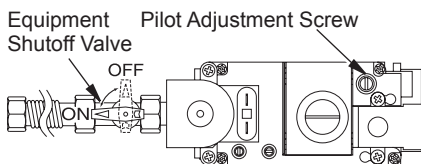

Figure 42 - Turning Equipment Shutoff Valve to the OFF Position
5. Turn equipment shutoff valve clockwise to the OFF position (see Figure 42). Do not force.
6. Wait five (5) minutes to clear out any gas. Then smell for gas, including near the floor. If you smell gas, **STOP!** Follow "B" in the safety information above. If you don't smell gas, go to the next step.
- Turn the adjustment screw marked PILOT clockwise to decrease or counterclockwise to increase the flame to proper size (see Figure 42, page 28). Do not remove the adjustment screw.